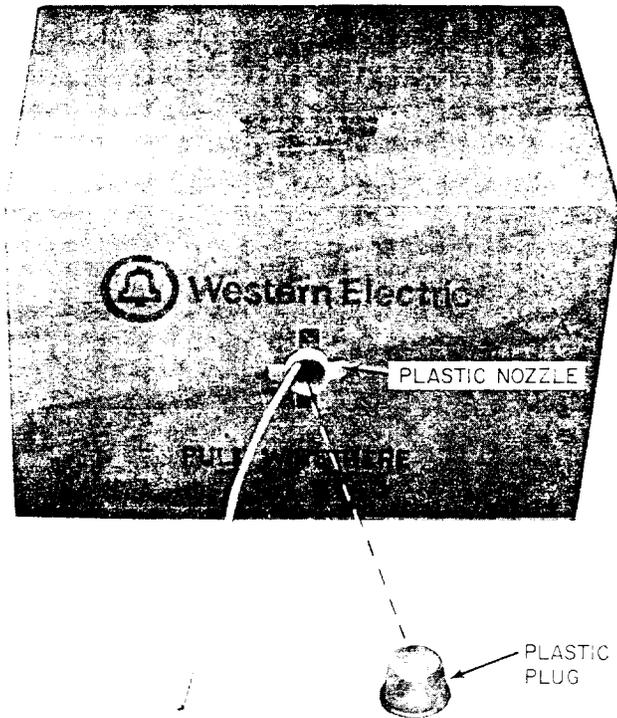

Fig. 2—Dispensing D Inside Wiring Cable or H Station Wire Using Self-Contained Carton/Dispenser
- (1) Remove plastic plug (Fig. 2) from plastic nozzle in carton.
- (2) Grasp free end of cable or wire protruding from plastic nozzle and pull several feet of slack from carton.
- (3) Place carton on floor and feed cable or wire from carton/dispenser (Fig. 2). **Do not remove cable or wire from carton.**
- (4) After cutting the cable or wire and leaving several inches protruding beyond the nozzle, reinsert the plastic plug in the nozzle to anchor the cable or wire end outside the carton.